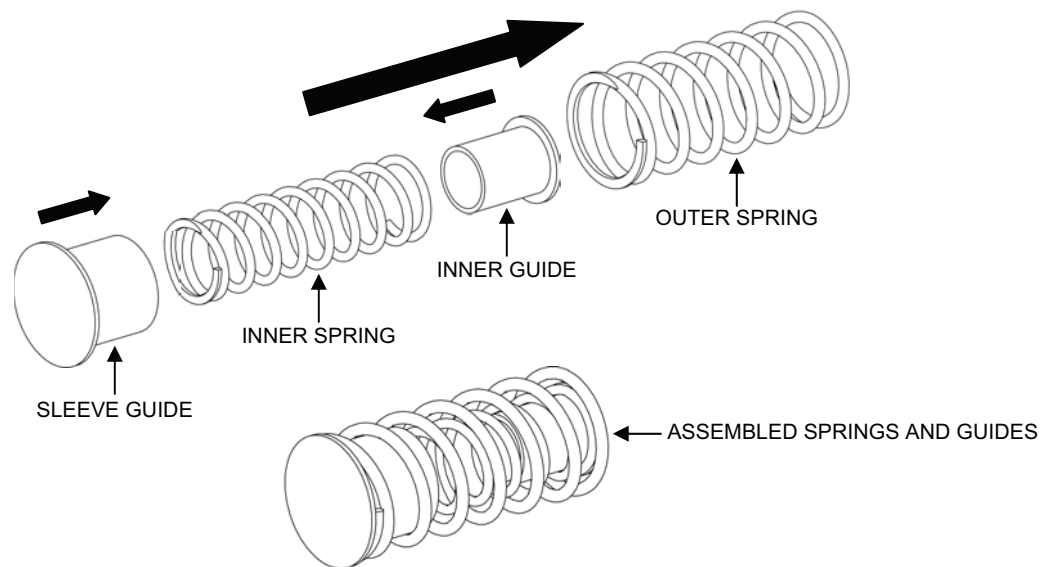

Figure 22. Actuator Spring Assembly.
- h. Assemble the springs as follows (see Figure 22):